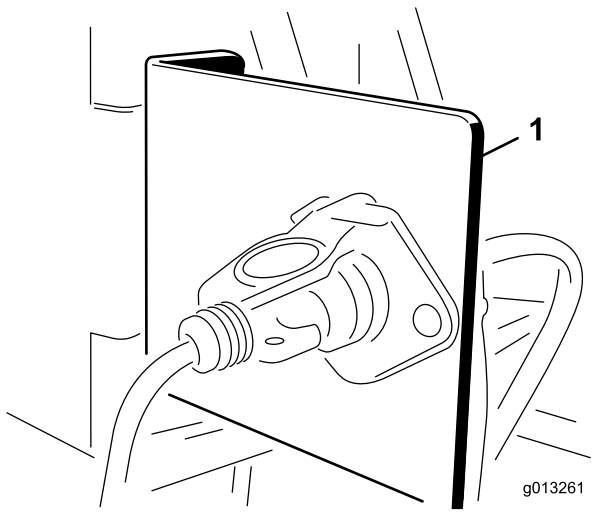

Figure 8
1. Mount the socket bracket to a fixed point at the rear of the tow vehicle using one of the mounting brackets provided (Figure 8).